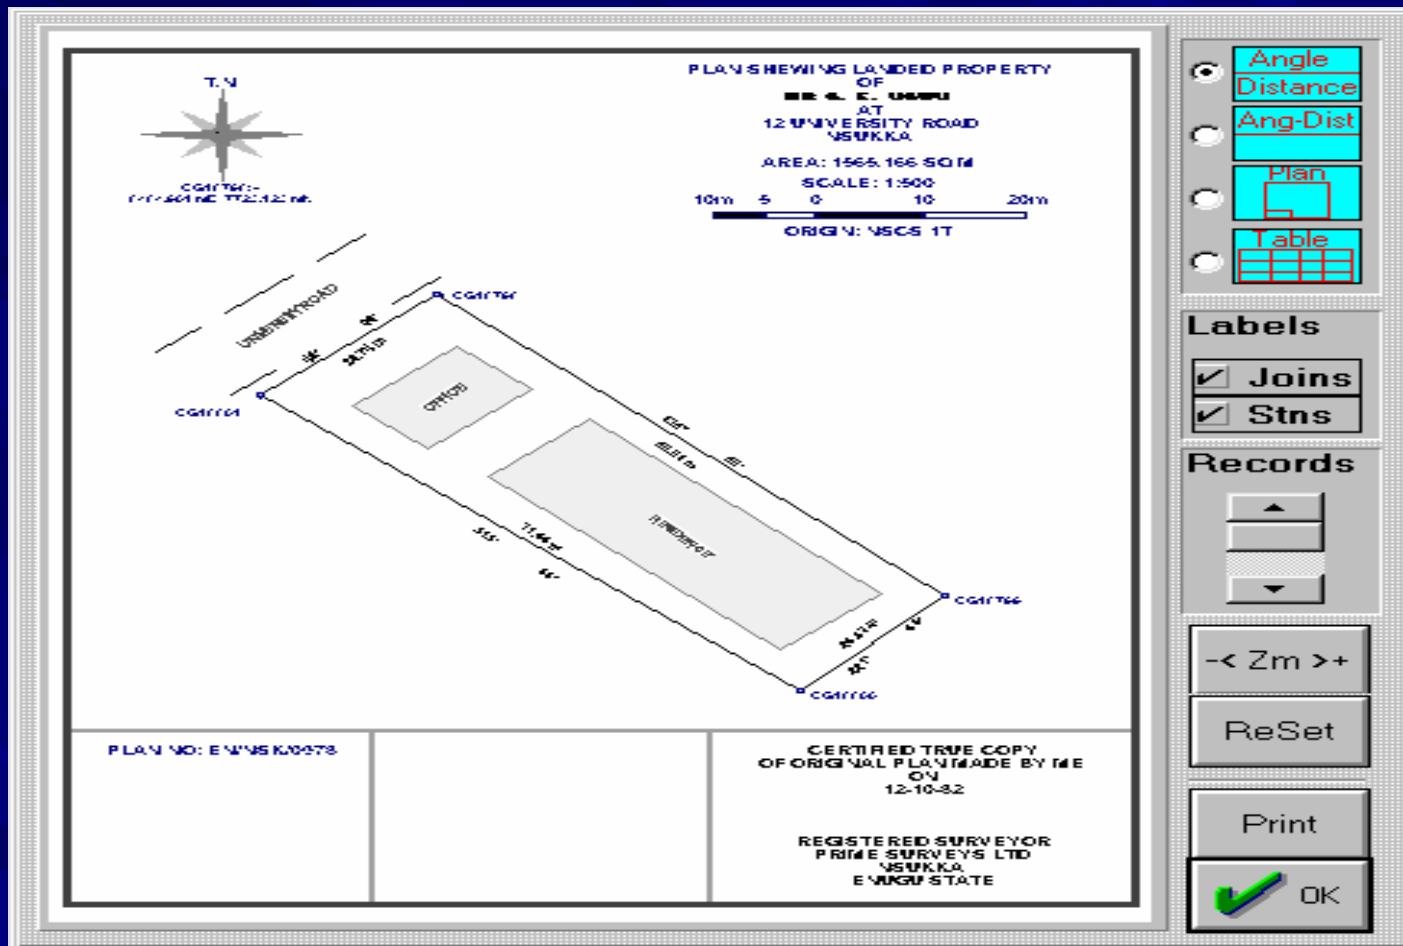

Fig. 9-2
- Attributes include ownership, area of parcel, graphic plan and historical information, Fig. 9-1 and Fig. 9-2.